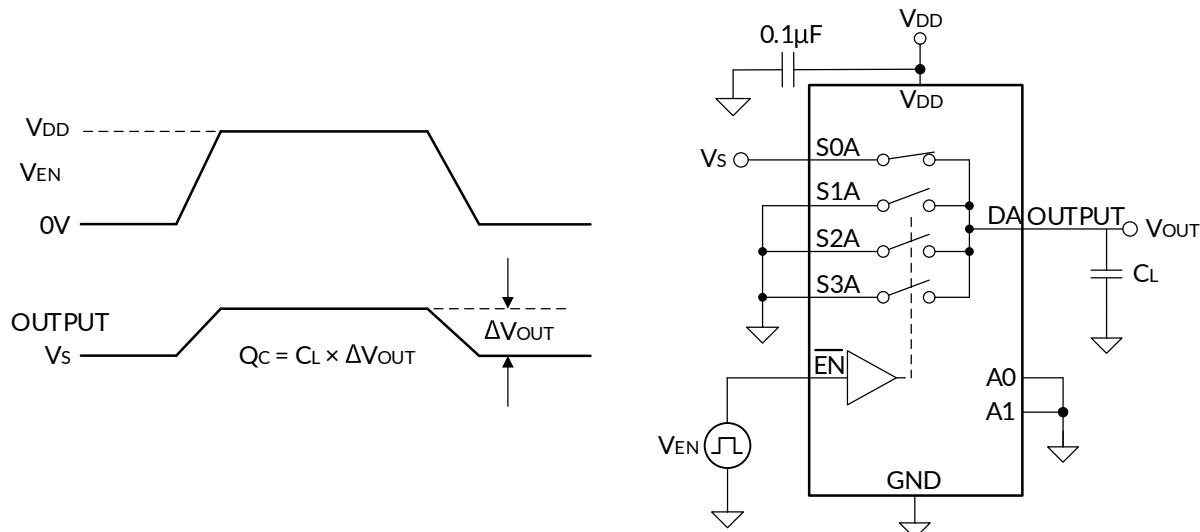

Figure 17. Charge-Injection Measurement Setup
The RMUX1309 device have a transmission-gate topology. Any mismatch in capacitance between the NMOS and PMOS transistors results in a charge injected into the drain or source during the falling or rising edge of the gate signal. The amount of charge injected into the source or drain of the device is known as charge injection, and is denoted by the symbol QC. Figure 17 shows the setup used to measure charge injection from source (S) to drain (D).